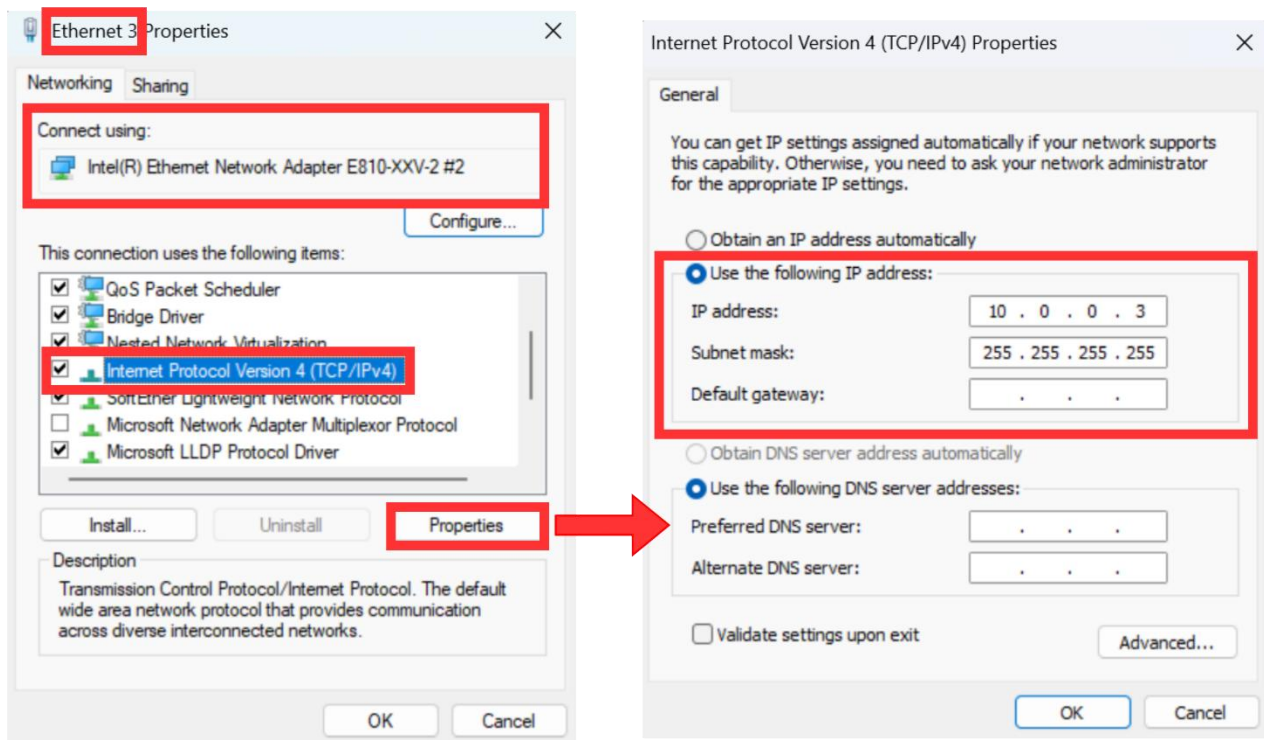

Figure 11 Setting IP address for PC
The User PC connects directly to the FPGA over a 1 GbE link. Its network interface is configured with a WireGuard tunnel address of 10.0.0.3 and a gateway of 10.0.0.1 as shown in Figure 11. Since all WireGuard tunnel traffic is routed through this gateway, the ARP table on the User PC must be manually configured for the gateway IP 10.0.0.1. Additionally, one active Ethernet interface must be reserved to support the Kill Switch or multiple allowed IPs functionality.
- 1) Open Local Area Connection Properties of 1 Gb connection, as shown in the left window of Figure 11.
- 3) Set IP address = 10.0.0.3 and Subnet mask = 255.255.255.0 as shown in the right window of Figure 11